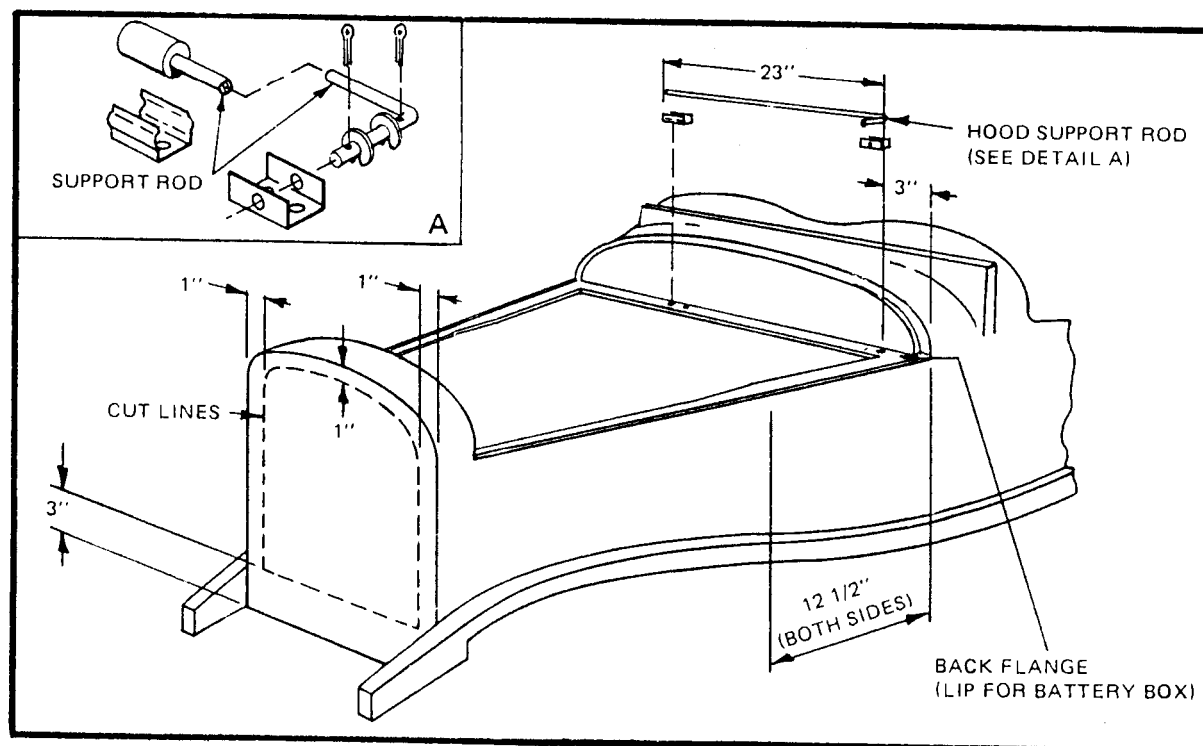

Figure 3
- Cut out inner lip around engine compartment except for the rear and 12 1/2" on each side. (Figure 3) Use a saber saw with fine tooth blades. At the front of the body (behind grille shell) cut out the entire area leaving 3" on the bottom end, 1" on each side and top. Check the body fit to make certain engine accessories clear body lip.
- The stock Chevette hood support rod is ideal for use on the assembly. Shorten rod to 23". Mount on back flange of body as shown in Figure 3.